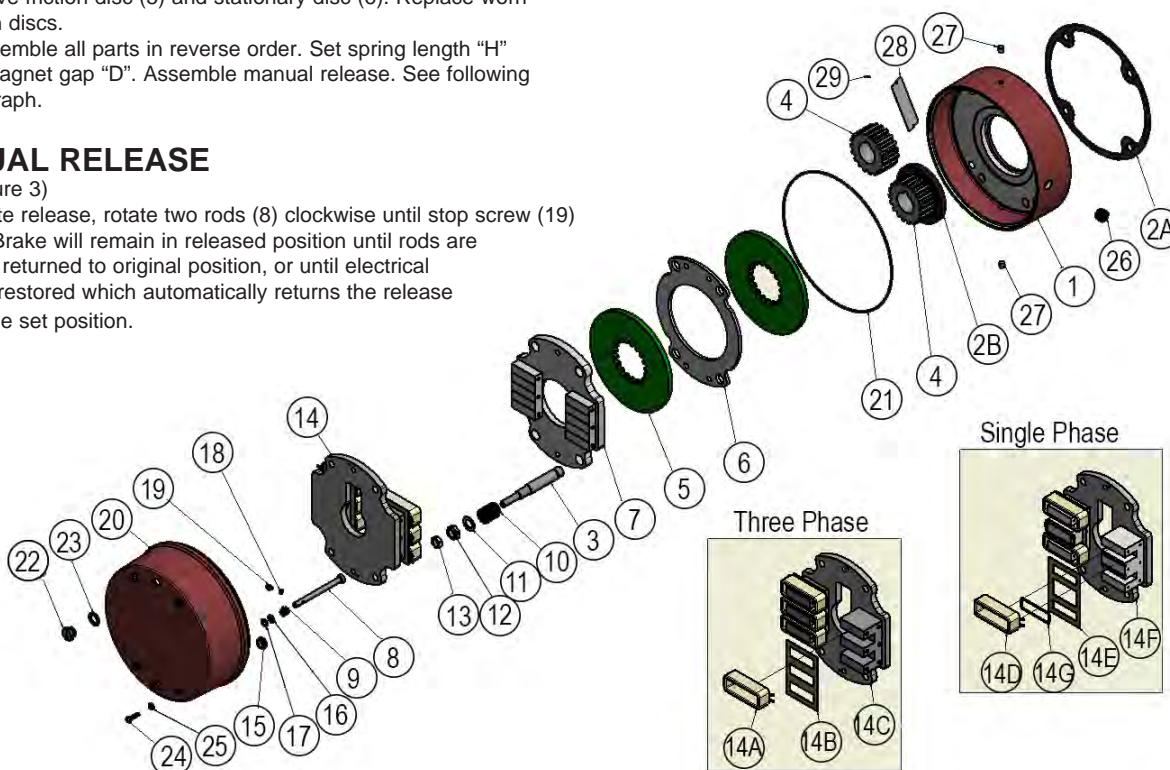

Figure 3. Exploded View of Brake
(See Figures 3 & 5, Tables 1 & 2)
(See Figures 3 & 5)
(See Figures 3 & 5, Table 2)
(See Figure 3)
When assembling a standard manual release mechanism (Figure 3), add only enough shim washers (16) to obtain proper release action. Too many shim washers will prevent automatic reset when electrical power is applied. Too few washers will prevent the motor shaft from turning freely. Replace stop screws (19). Wind each torsion spring (9) approximately 1/4 turn and hook spring loop over pin.
(See Figures 3 & 4)